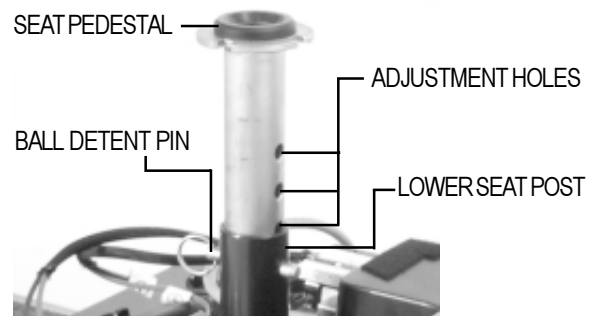

FIGURE 14. SEAT HEIGHT ADJUSTMENT
2. Use the attached ring to pull and remove the ball detent pin from the lower seat post. See figure 14.